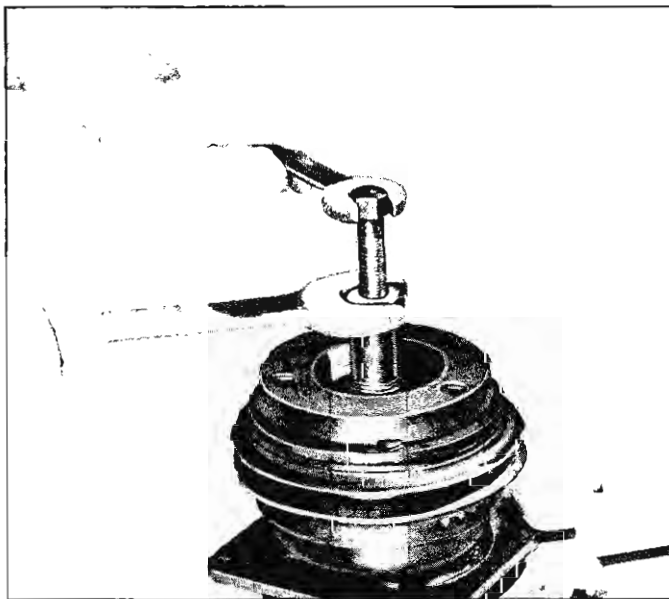

Fig. 14—Removing Hub and Drive Plate Assembly
3. Tool J-9401 may now be used to remove the hub and drive plate assembly (fig. 14).